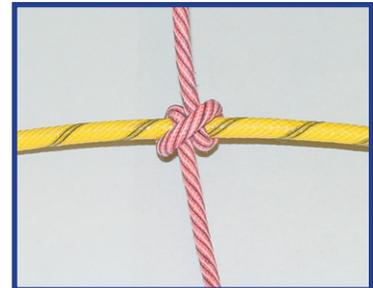
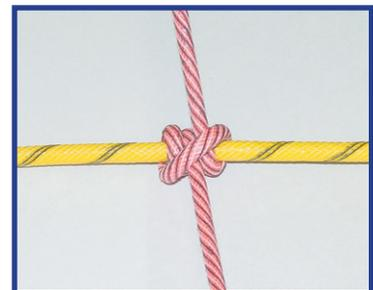

Figure 63 - Single-wrap clove hitch knot.
Figure 64 - Double-wrap clove hitch knot.
- Either the **single-wrap clove hitch** (Figure 63) or **double-wrap clove hitch** (Figure 64) are recommended for connecting trunkline cross-ties or downlines to trunklines.